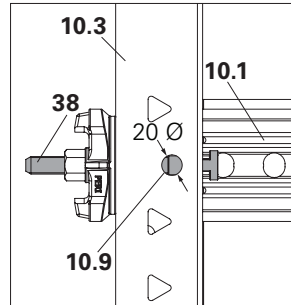

Fig. A4.09a
Once in position, there should not be any gap between HSA Corner Connector DW 15 (38) and panel frame (10.3). (Fig. A4.09a)